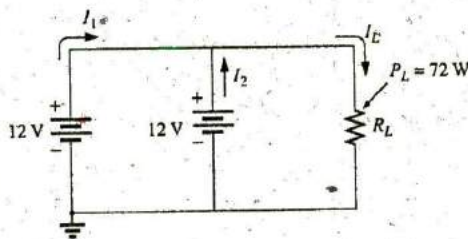

FIG. 6.106
37. Assuming identical supplies in Fig. 6.106: